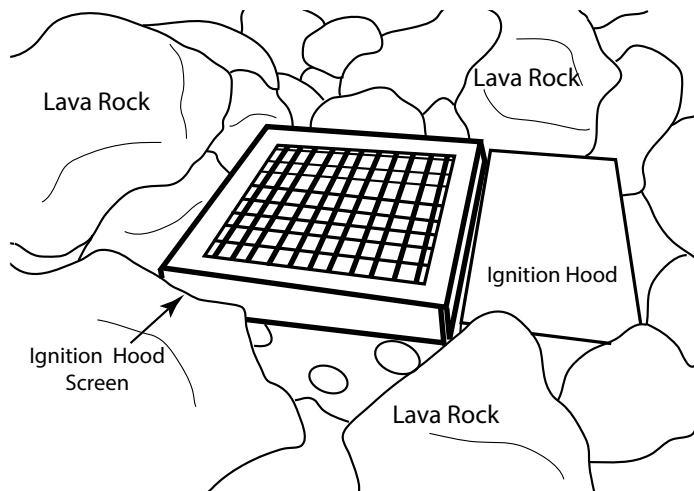

Fig. 17 Installing screen mesh cover on ignitor hood.
Step 10: Install the ignition hood screen mesh and ensure no media lays on the screen mesh area (See Fig. 17). Install the lava rock/media material according to fire pit install manual and turn the main gas supply back ON. Installation is now complete.